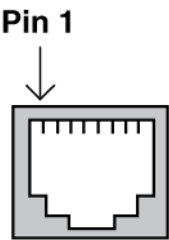

Figure 37. Pin Layout for RJ45 Connector on LAN Port
**Port Pinouts**      The pin signal definitions for PORT1 and PORT2 are given here. Figure 37 illustrates the pin layout of the ports.